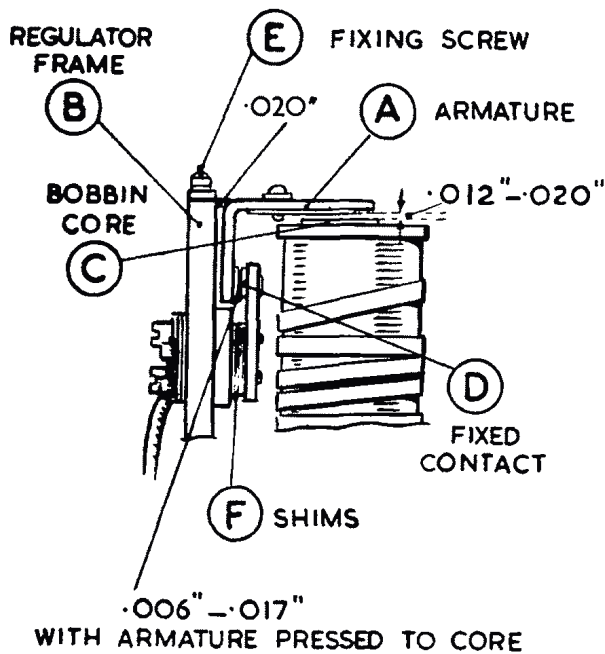
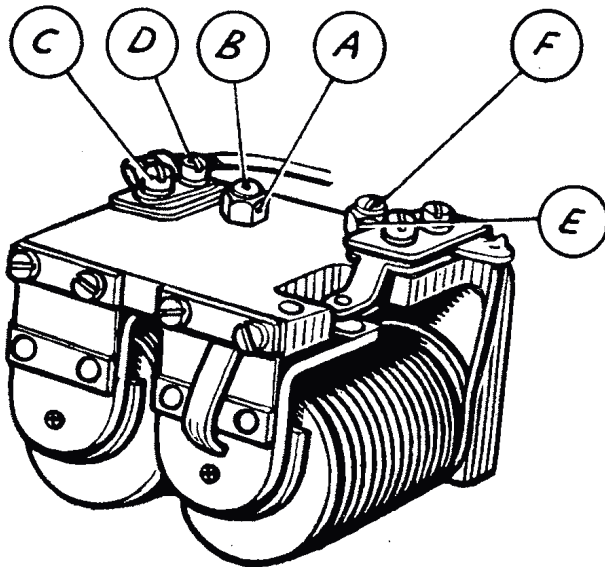

Fig. N.7
Fig. N.8
Shut off the engine, remove the control box cover, release the locknut (A) (Fig. N.8) holding the adjusting screw (B) and turn the screw in a clockwise direction to raise the setting or in an anti-clockwise direction to lower the setting. Turn the adjusting screw a fraction of a turn and then tighten the locknut.
- (1) Slacken the two armature fixing screws (E) (Fig. N.7). Insert a  $\cdot 020$  in. ( $\cdot 51$  mm.) feeler gauge between the back of the armature (A) and the regulator frame.
- (2) Press back the armature against the regulator frame and down onto the top of the bobbin core with the gauge in position and lock the armature by tightening the two fixing screws.
- (3) Check the gap between the under side of the arm and the top of the bobbin core. This must be  $\cdot 012$  to  $\cdot 020$  in. ( $\cdot 30$  to  $\cdot 51$  mm.). If the gap is outside these limits correct by adding or removing shims (F) (Fig. N.7) at the back of the fixed contact (D) or, in later types, by carefully bending the fixed contact bracket.
- (4) Remove the gauge and press the armature down, when the gap between the contacts should be between  $\cdot 006$  in. ( $\cdot 15$  mm.) and  $\cdot 017$  in. ( $\cdot 43$  mm.).
To render the regulator contacts accessible for cleaning, slacken the screws securing the plate carrying the fixed contact. It will be necessary to slacken the upper screw (C) (Fig. N.8) a little more than the lower screw (D), so that the contact plate can be swung outwards. Clean the contacts by means of fine carborundum stone or fine emery-cloth. Carefully wipe away all traces of dirt or other foreign matter. Finally tighten the securing screws.
If the cut-out has become out of adjustment and operates at a voltage outside these limits it must be reset. To make the adjustment, slacken the locknut (E) (Fig. N.8) and turn the adjusting screw (F) a fraction of a turn in a clockwise direction to raise the operating voltage